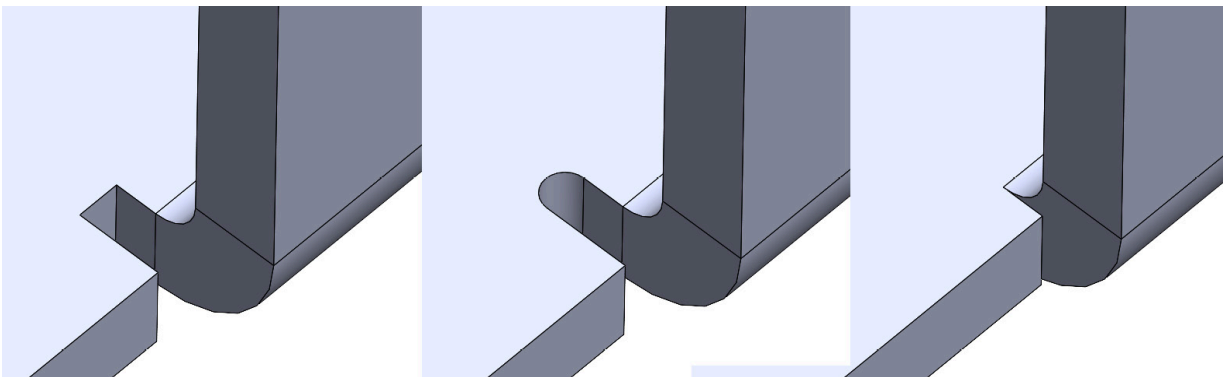

Figure 1.16: Auto Relief examples; left to right: Rectangular, Obround, Tear
- **Rectangular:** This gives a rectangular cut (see *Figure 1.16*). The size of the cut is determined by the ratio number and is related to the thickness of the sheet—for example, a ratio of **0.5** and a sheet thickness of **1mm** will give a relief cut 0.5mm wide, which extends 0.5mm beyond the bend region. Note: the relief ratio has to be between 0.05 and 2.0.
- **Obround:** This gives a more rounded cut (see *Figure 1.16*) and also uses a ratio based on the thickness of the sheet in the same way as the **Rectangular** option.